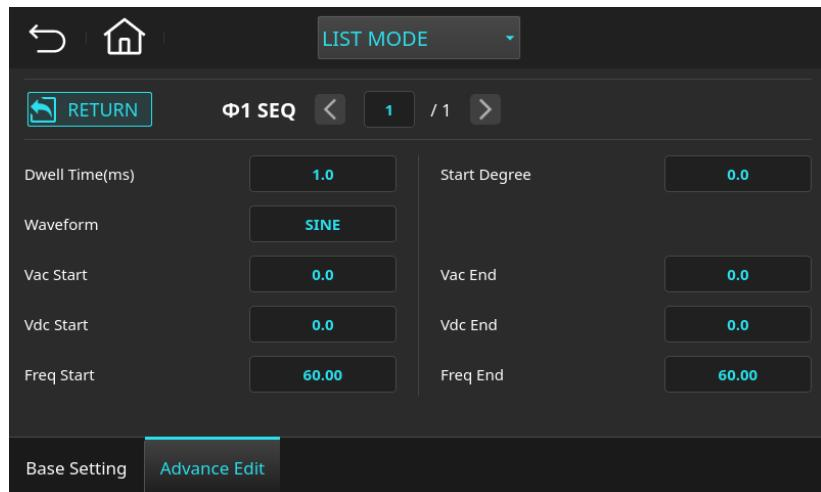

Figure 5-4 List Mode Setting Page (Phase 1 – Sequence 1 Configuration Page)
**EDIT** again to enter the sequence design page for detailed editing, as shown in Figure 5-4.